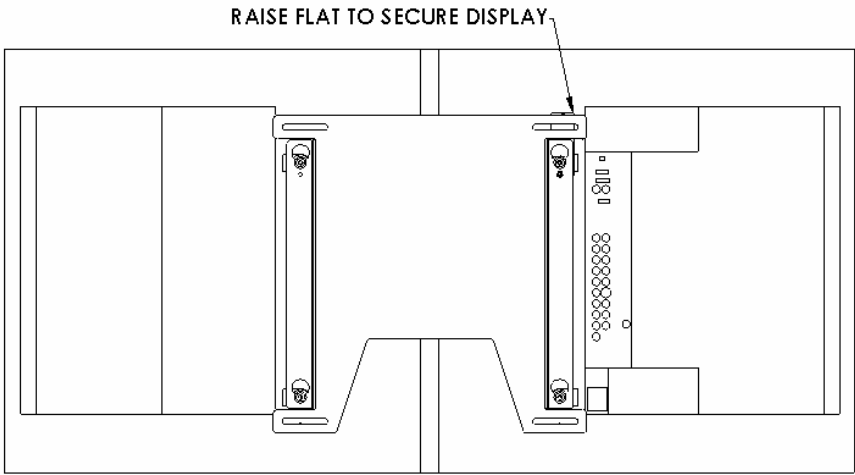

Figure 6
7. With the aid of another person, lift the display up to the mount, align the mounting buttons on the screen with the teardrop slots in the mount, and set the screen into place (see Figure 6).